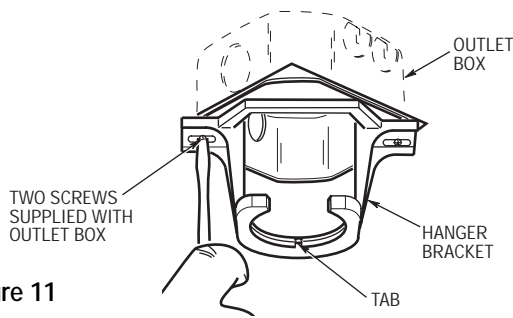

Figure 11
- 15. Securely attach the hanger bracket to the outlet box using the two screws supplied with the outlet box (Figure 11).
16. Carefully lift the fan and seat the hanger ball/downrod assembly on the hanger bracket that was just attached to the outlet box (Figure 12). Be sure the groove in the ball is lined up with tab on the hanger bracket (Figure 11).